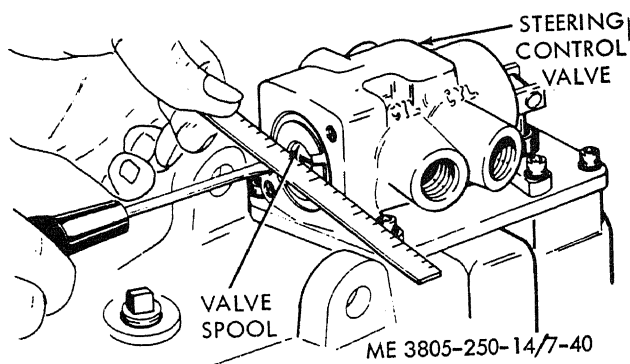

Figure 7-40. Steering control valve, spool adjustment.
- (1) Insert a screwdriver into the slot on the valve spool and thread the spool in or out until the slotted end of the spool is flush with the bottom of the valve body, figure 7-40.